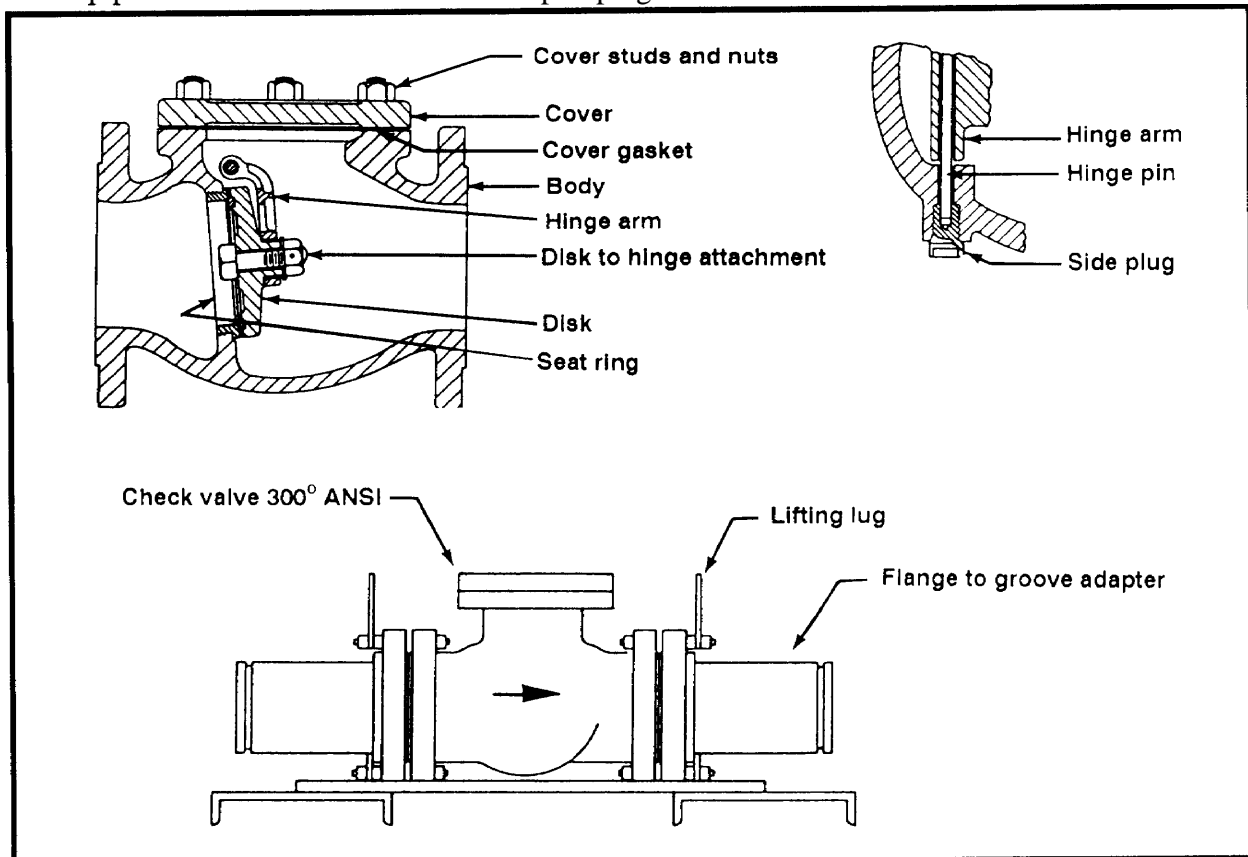

Figure 2-6. Typical check valve
(2) Check Valve. A check valve is constructed so the fuel flows only one way. The valve has a hinged disk or clapper that the fuel pushes when the flow is in the correct direction. When the flow stops and back pressure develops, the clapper is pushed against its seat, stopping back flow. Figure 2-6 shows a typical check valve. A check valve is often used at the foot of an upgrade slope in lieu of a gate valve. So line scrapers can pass, a check valve must be opened to the full diameter of the pipe when used in the line between pumping stations.